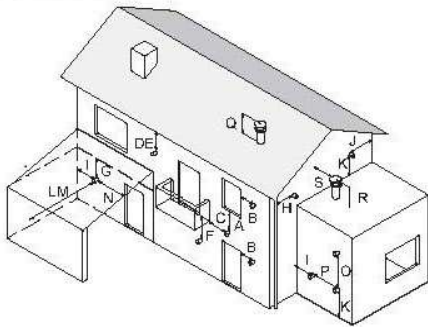

Figure 5.15
- be installed in accordance with the minimum distances Figure 5.15 and applicable national and local regulations.